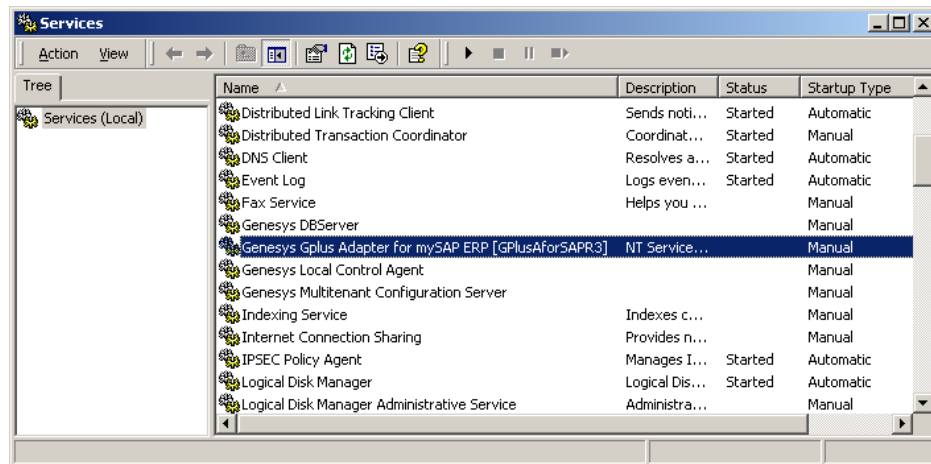

Figure 10: Windows Services List
- The Genesys *Gplus* Adapter for SAP ERP item in the Windows Services list. See Figure 10.